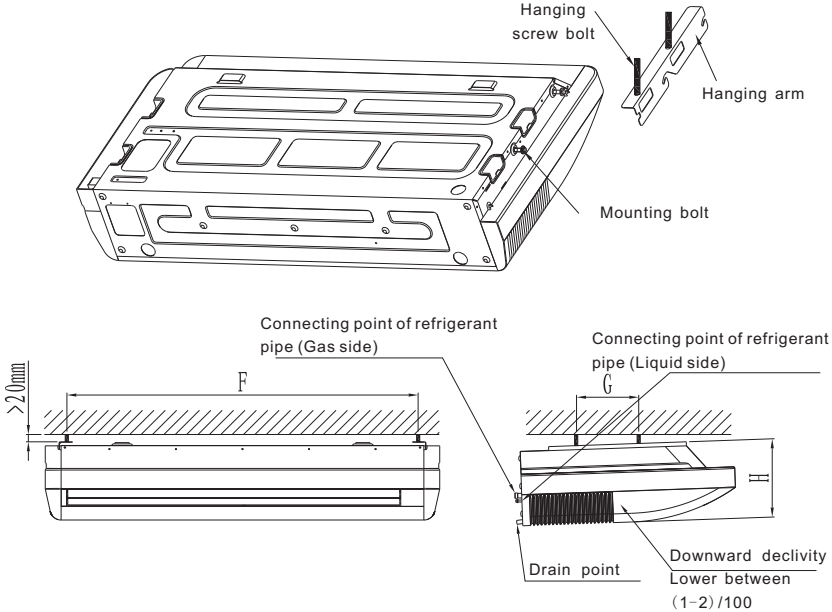

Fig 17
■ Hang the unit on the hanging arm by sliding backward. Securely tighten the mounting bolts on both sides (Refer to Fig 17)